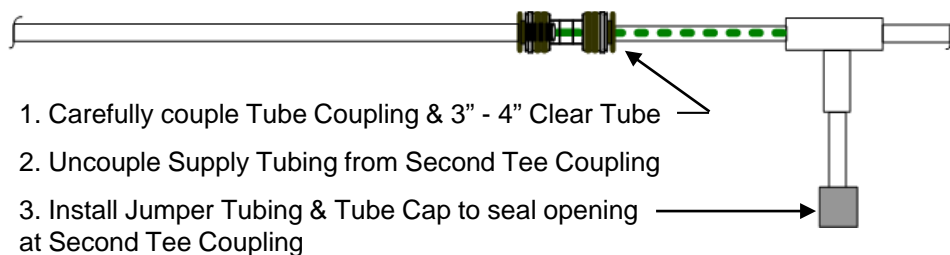

Figure 10D
11.13 **Key Step.** Carefully bring Tube Coupling and 3" - 4" length of 8mm Clear Tube together and couple. Any fiber bundle slack may wave or snake inside 8mm Clear Tube as connection is made. **See Fig. 10D.**
12.3 Push-fit a short length of tubing into Branch Leg of Second Tee Coupling. Push-fit a Tube Cap onto end of short tubing to seal Second Tee Coupling. **Refer to Fig. 10D.**